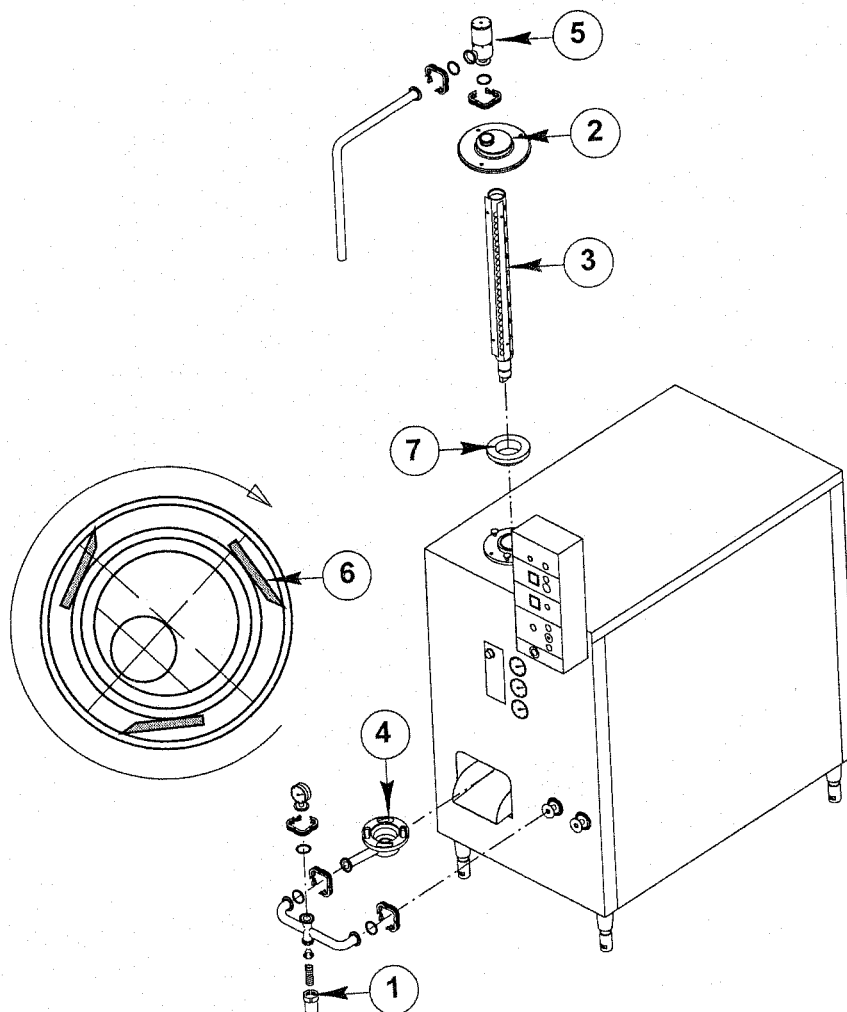

Fig. 6.6
- g. Open the safety valve (1) to drain the water contained inside the machine (Fig. 6.6).
- h. Remove the cover (2) by unscrewing the knobs holding it in place.
- i. Disconnect the pipes and the valve (5) on top of the cover.
- l. Remove the dasher (3) using the tool provided, and dismantle the blades (6). Wear strong non-slip gloves to protect against cuts from the blades.
- m. Dismantle the cylinder bottom (4).
- p. Reassemble the parts in precisely the same position as before. Be very careful when positioning the blades (6); the sharp part must be facing the cylinder.